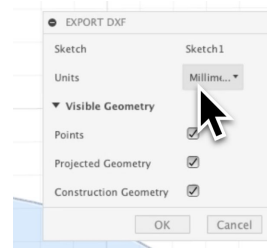

Figure 1.2
2. In the dialog box, select your **units** (inches or millimeters). Always double-check scaling after import (see Figure 1.2).
3. Review and adjust the visibility options: **Visible Geometry**: Only exports visible lines (see Figure 1.2).